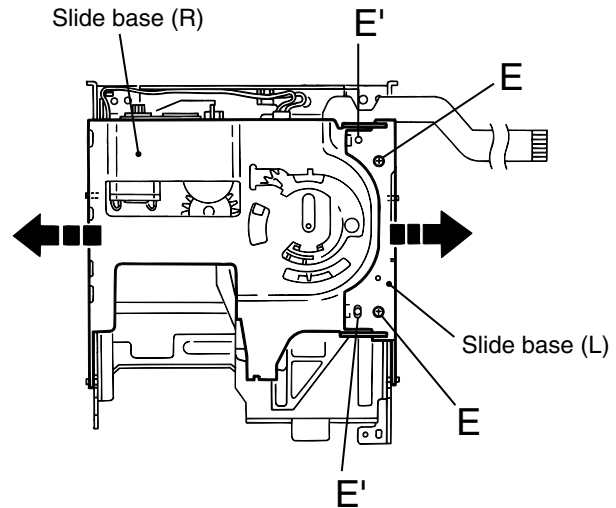

Fig.10
■Removing the slide base (L) / (R) (See Fig.10)
2. Remove the slide base (L) outward. (Release it from the joint bosses E.)
3. Remove the slide base (R) outward.